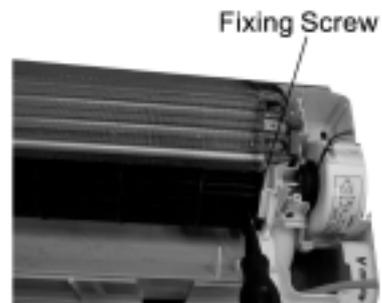

Fig 7
4. Release fixing screw of the cross flow fan. (Fig 7)